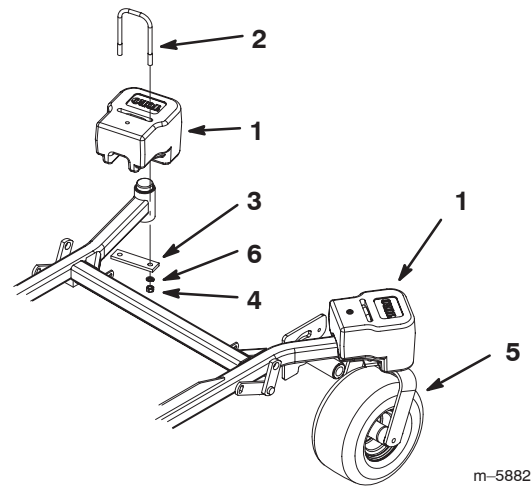

Figure 18
1. Place a caster weight on the front caster and install the U-bolt through the caster weight (Fig. 18).
2. Install the plate, the nuts (1/2 inch) and the lock washer (1/2 inch) under the frame and caster weight (Fig. 18).